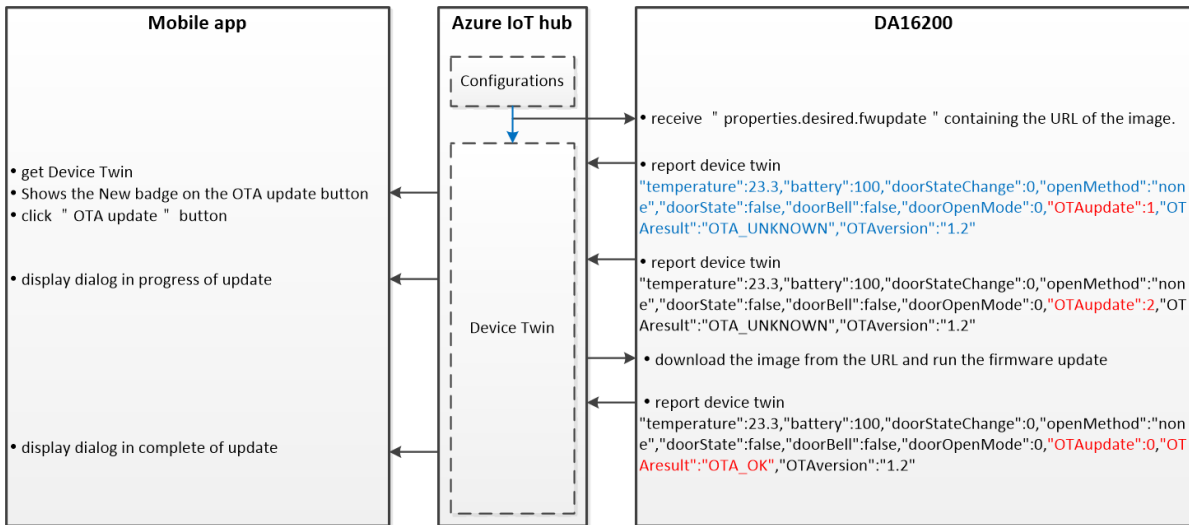

Figure 83: Message Flows of OTA Update
8. The message flow of OTA update is shown in Figure 83.